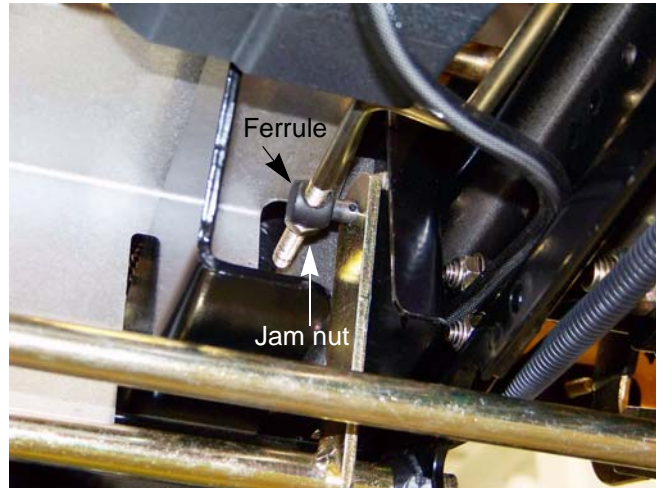

Figure 3.17
8. Loosen the jam nut. See Figure 3.17.